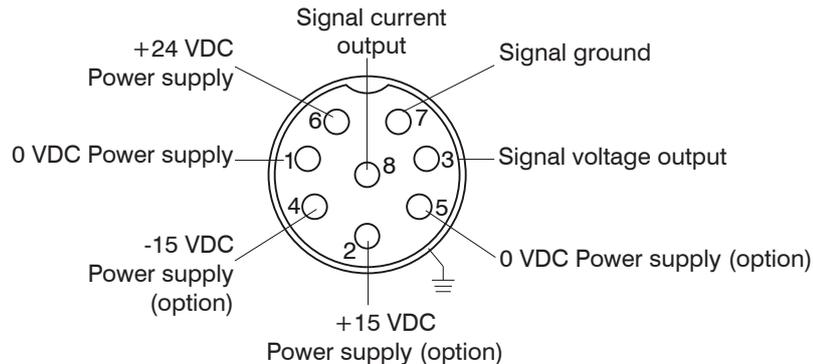

Fig. 14 Socket pin assignment and signal output for standard supply (+24 VDC) and optional supply (± 15 VDC) - view on solder pin side female cable connector
- ➡ Connect the output cable to the 8-pole built-in socket, see Fig. 14, on the controller with the enclosed plug.
The power supply and signal output are connected by the 8-pin built-in connector (DIN 45326). Pin assignment, see Fig. 14, see Fig. 15. The controller contains an 8-pin cable socket for the user-side assembly of your own connecting cable. The EMC regulations are only satisfied under these basic conditions.